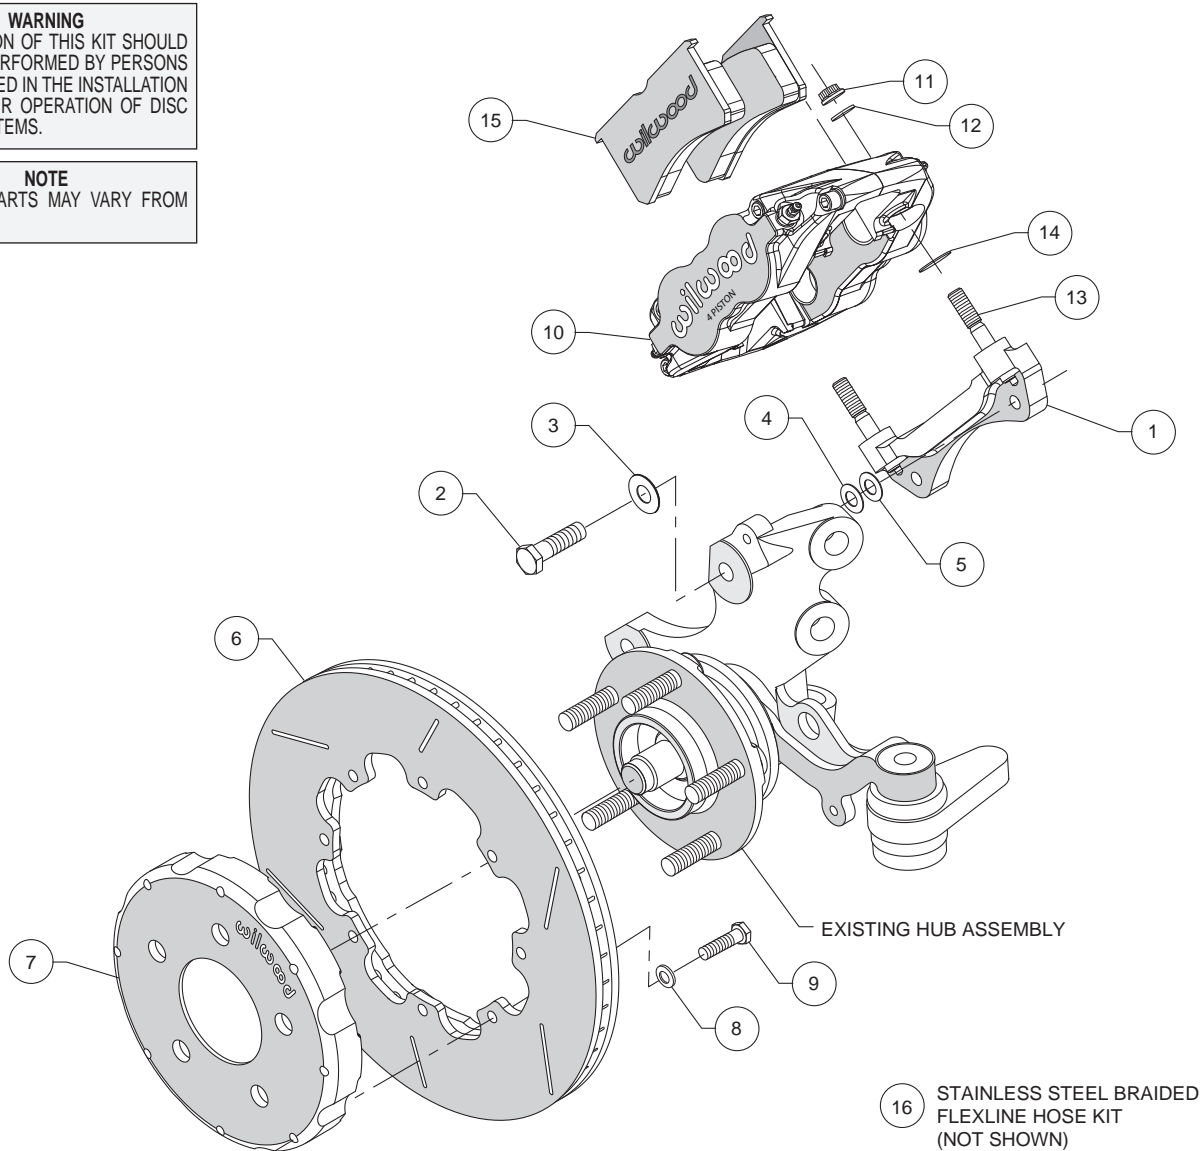
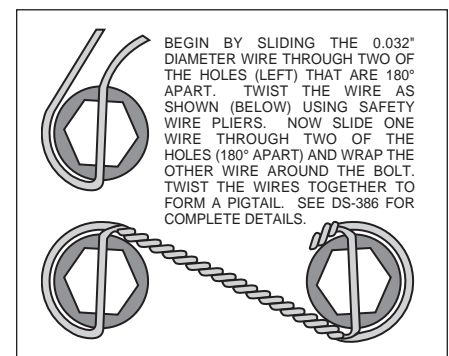

Figure 1. Typical Installation Configuration
Figure 4. Safety Wire Diagram
- The caliper mount bracket assembly (1) should be installed first with clean, dry threads on the mounting bolts. Install the bracket on the inboard side of the spindle by sliding bolt (2) through flat washer (3), and spindle mounting ear from the outboard side of the spindle. Place two shim washers (4) between the bracket (1) and the spindle (see figure 1). The bracket must tighten squarely against the inboard side of the modified caliper mount bosses on the spindle body. Inspect for interference from casting irregularities, machining ridges, burrs, etc. Later, after the caliper, pad, and rotor alignment has been checked, and any necessary shims have been put in place, the mount bolts should be coated with red *Loctite*® 271 and torqued to 65 ft-lbs.
- With the larger I.D. side of the rotor (6) facing away from the hat (7), attach the rotor (6) to the hat (7) using washers (8) and bolts (9) as shown in Figure 1. Using an alternating sequence, apply red *Loctite*® 271 to the threads and torque bolts to 25 ft-lb. For an added measure of security, the bolts may be safety wired using standard 0.032 inch diameter stainless steel safety wire as shown in Figure 4. Please refer to Wilwood's data sheet DS-386 (available at www.wilwood.com/Pdf/DataSheets/ds386.pdf) for complete safety wire installation instructions.
- Lubricate caliper mounting studs (13) and nuts (11) with lightweight oil. Install two shims (14) over each stud (13) on the radial mount bracket. Slide the caliper (10) in place over the studs and rotor and install the washer (12) and lock nut (11) to hold the caliper in place. The caliper bleed screws should be pointing up. Snug the lock nuts (11) and check that the rotor (6) is centered in the caliper (10). Add or subtract shims (4 and/or 5) as necessary between the mount bracket and the spindle to center the caliper.
- Remove the caliper center bridge pad retainer bolt, nut, and tube from the caliper. Slide the brake pads (15) into place. They should install easily without interference. Check that the outside radius of the brake pad is flush with the outside diameter of the rotor face. Add or subtract shims (14) between the caliper and mount bracket to gain the proper alignment. Reinstall the center bridge pad retainer tube, bolt, and lock nut. The locknut should be snug without play in the bolt or tube. Be cautious not to over tighten.